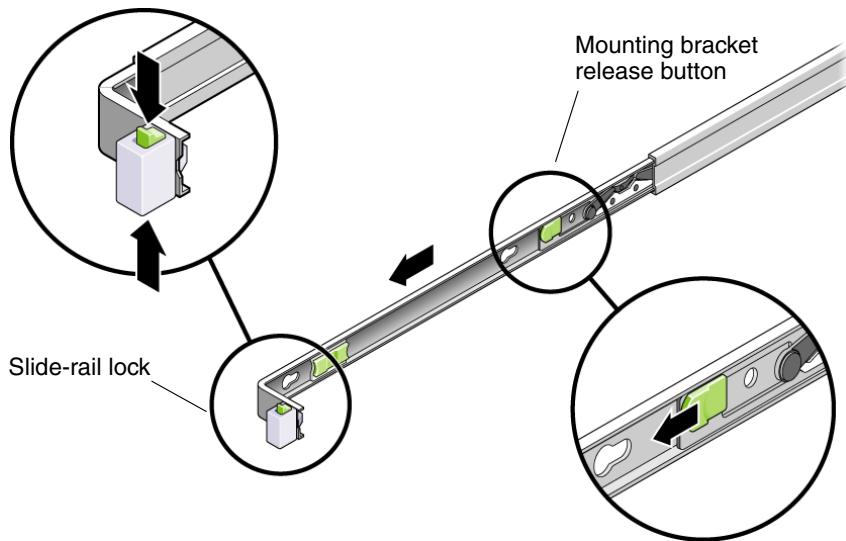

FIGURE C-1 Disassembling the Slide Rail Before Installation
2. Locate the slide rail lock at the front of one of the slide rail assemblies, as shown in FIGURE C-1.
3. Squeeze and hold the tabs at the top and bottom of the lock while you pull the mounting bracket out of the slide-rail assembly until it reaches the stop. (See FIGURE C-1).
4. Push the mounting bracket release button toward the front of the mounting bracket, as shown in FIGURE C-1, and simultaneously withdraw the mounting bracket from the slide-rail assembly.